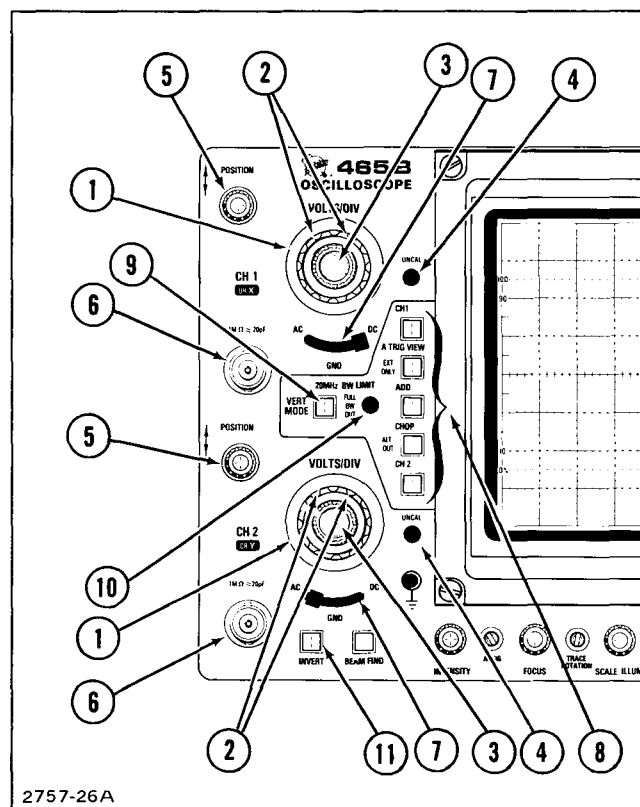

Figure 2-3. Vertical controls, connectors, and indicators.
The major controls, connectors, and indicators for operation of the 465B are located on the front panel of the instrument. A few auxiliary functions are provided on the rear panel. Figures 2-3 through 2-7 show the front and rear panels of the instrument with the controls, connectors, and indicators called out. The circled numbers correspond to the discussions about particular controls, connectors, and indicators. If your instrument is equipped with a DM44 Digital Multimeter, refer to either the 465B/DM44 Operators Manual or the DM44 Service Manual for descriptions of DM44 controls, connectors, and indicators.
Refer to Figure 2-3 for location of items 1 through 11.
- ① **VOLTS/DIV Switches**—Select the vertical deflection factor for Channel 1 and Channel 2 in a 1-2-5 sequence. VAR control must be in the calibrated detent to obtain a calibrated deflection factor.
- ② **VOLTS/DIV Readouts**—Consist of two light emitting diodes (LED) for each channel, located beneath the skirt of each VOLTS/DIV knob. One LED or the other will light to indicate the correct deflection factor. The 10X LED is illuminated only when a 10X probe with a scale-switching coding-ring contact is connected to the input of the oscilloscope; otherwise, the 1X LED is illuminated.
- ③ **VAR**—Provides continuously variable uncalibrated deflection factors between the calibrated settings of the VOLTS/DIV switches.
- ④ **UNCAL Indicator**—A LED that lights when the VAR VOLTS/DIV control is out of the calibrated detent, and the vertical deflection factor is uncalibrated.
- ⑤ **POSITION Controls**—Determine the vertical position of the display on the crt. In the X-Y mode, the Channel 2 POSITION control moves the display vertically (Y-axis), and the Horizontal POSITION control moves the display horizontally (X-axis).